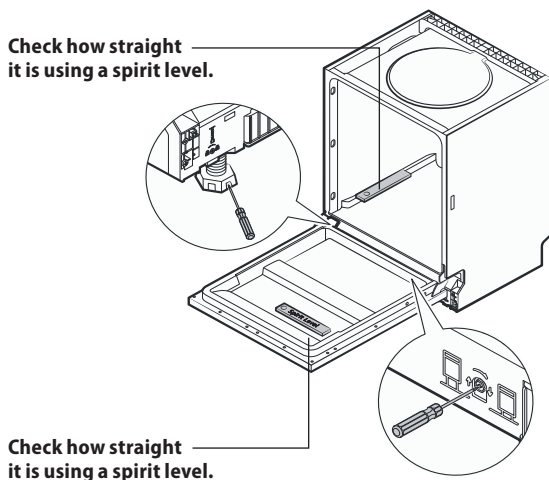

Fig. 17
8. Use the feet at the front and back of the appliance to level it to a horizontal position. Adjust the back feet by turning the screw on the bottom of the front side of the appliance (step 5). Adjust the front feet by turning screws located near the feet themselves (step 5B). Use a spirit level Fig. 17).